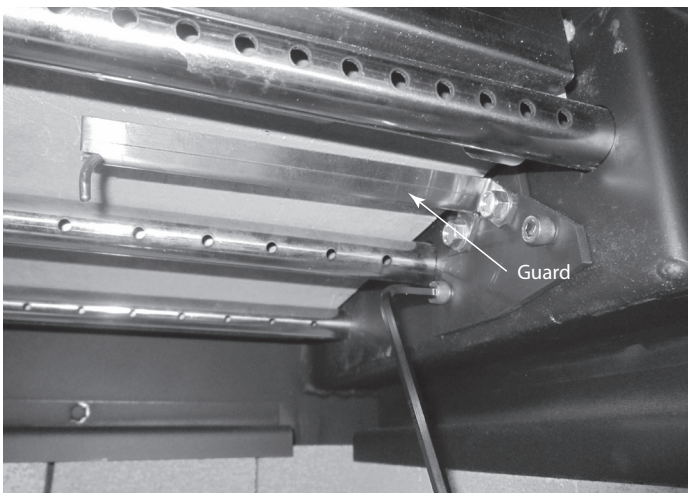

Figure 4.6 Thermocouple Guard
- Next, open the appliance door, look for the thermocouple in the top left or top right side of the firebox. Once located, remove the stainless steel thermocouple guard by removing the (2) 1/4" bolts using a 3/8" nut driver. See Figure 4.6.